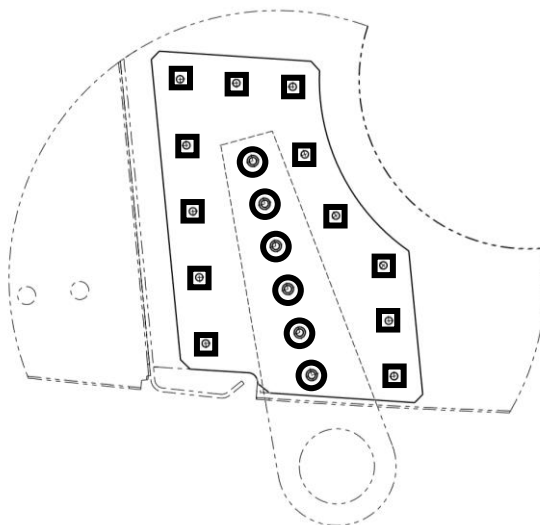
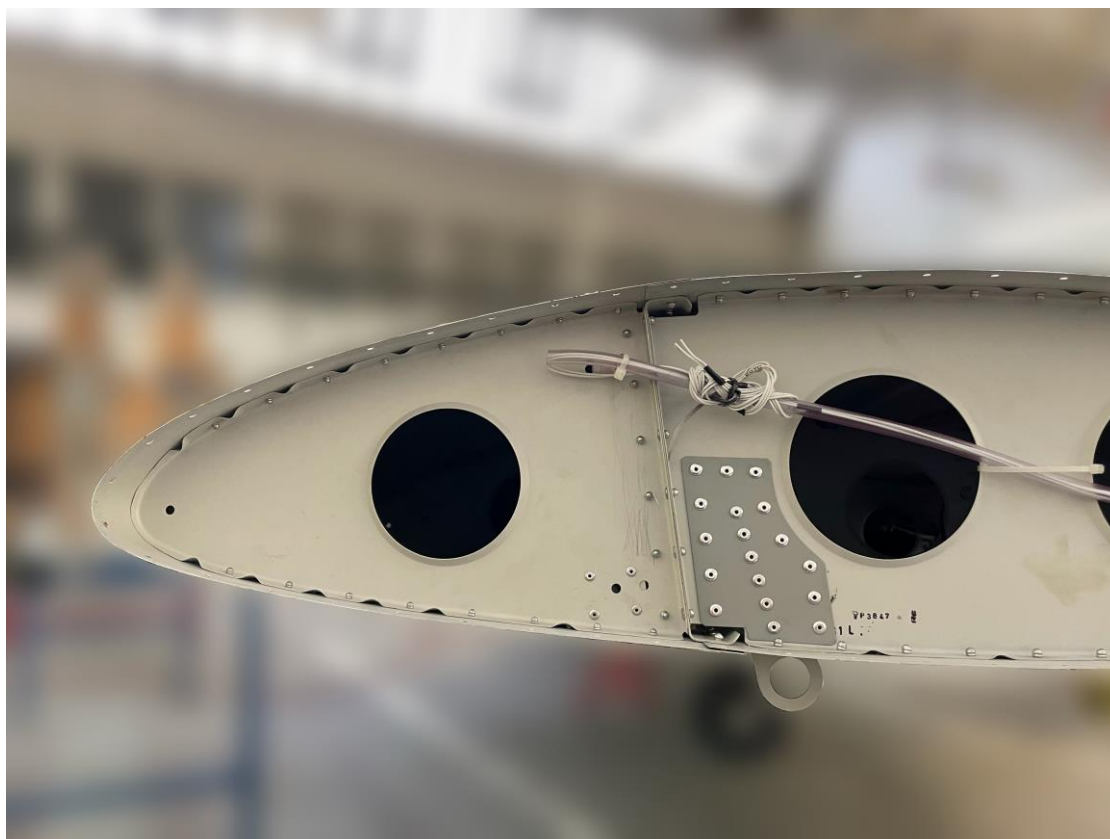

Fig. 1: Tiedown ring with patch
Fig. 2: Patched tiedown ring
- 6) Fit the tiedown ring (003) and tiedown ring reinforcement (001, Fig. 1 and Fig. 2). Rivet it (004, 005).